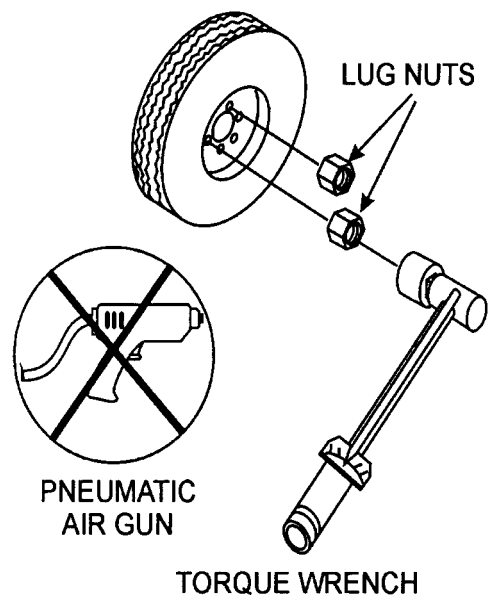

Figure 76. Lug Nut Tightening Sequence
2. Torque all lug nuts in sequence. See Figure 76. **DO NOT** torque the wheel lug nuts all the way down. Tighten each lug nut in 3 separate passes as defined by Table 14.